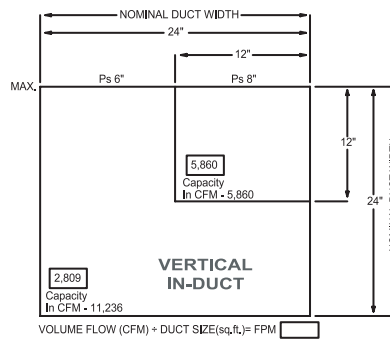

FIGURE 2
A Model 151A 24" x 24" is ordered to be installed in a Vertical In-Duct position (see Figure 2). This unit shall be assembled in (1) 24" x 24" section, which according to the table, is rated for an air volume of 11,236 CFM with an air velocity of 2,809 FPM and a static pressure (Ps) of 6" w.g. Therefore, the 24" x 24" unit will have a maximum air volume of not more than 11,236 CFM with an air velocity of 2,809 FPM and a static pressure (Ps) of 6" w.g.